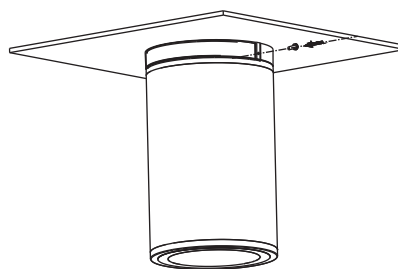

fig. 7
7. Tighten the securing screw to finalize the installation. (Figure 7)